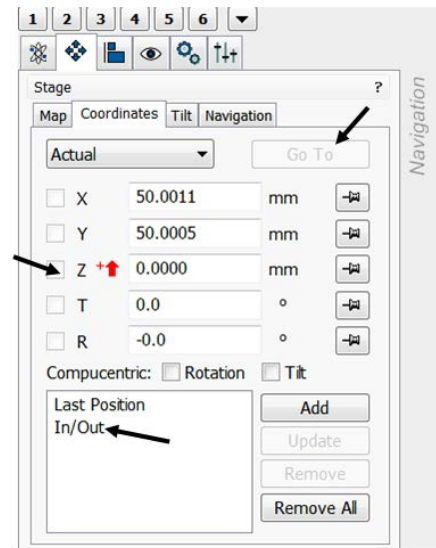

Figure 3
Z-Link –The link adjusts the z coordinate such that it corresponds to the distance from the pole piece to an in-focus scanning area on a sample. Once linked, z=0 corresponds to the end of the pole piece. Without link, z=0 corresponds to the lowest point of the stage motion. The up or down of the red arrow in the stage z coordinate indicates the direction of increasing z. (Fig. 3) Always focus on the highest part of your sample and link. The generated WD is approximately your clearance. When tilting the sample extreme care must be taken to ensure the highest point of your sample does not contact the pole piece, even at a large working distance.
- 7.10 Click on **Beam On**. (Figure 3) Either quad I or quad II can be used to perform SEM imaging but only quad I can be fed into EDS. Click on the pause button to start scan in that quad.
- 9.2 Select **In/Out** under the coordinate tab at navigation work page, Click **Go To**, then wait until it stops at **in/out** position. (Fig. 3)